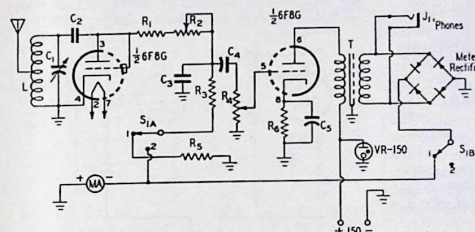

Fig. 8-4—Circuit diagram for a versatile 'phone monitor that includes means of observing carrier shift and percentage of modulation.
FIG. 8-4 shows the circuit of a versatile unit that will find several uses in almost any 'phone station. It can be put to the following uses: (1) to monitor the audio quality of the signal; (2) to observe carrier shift and thus detect over-modulation; (3) to read (after calibration) average percentage modulation. The circuit is simple to construct, easy to adjust, and as reliable as most of the more expensive commercially-built gadgets of similar nature.